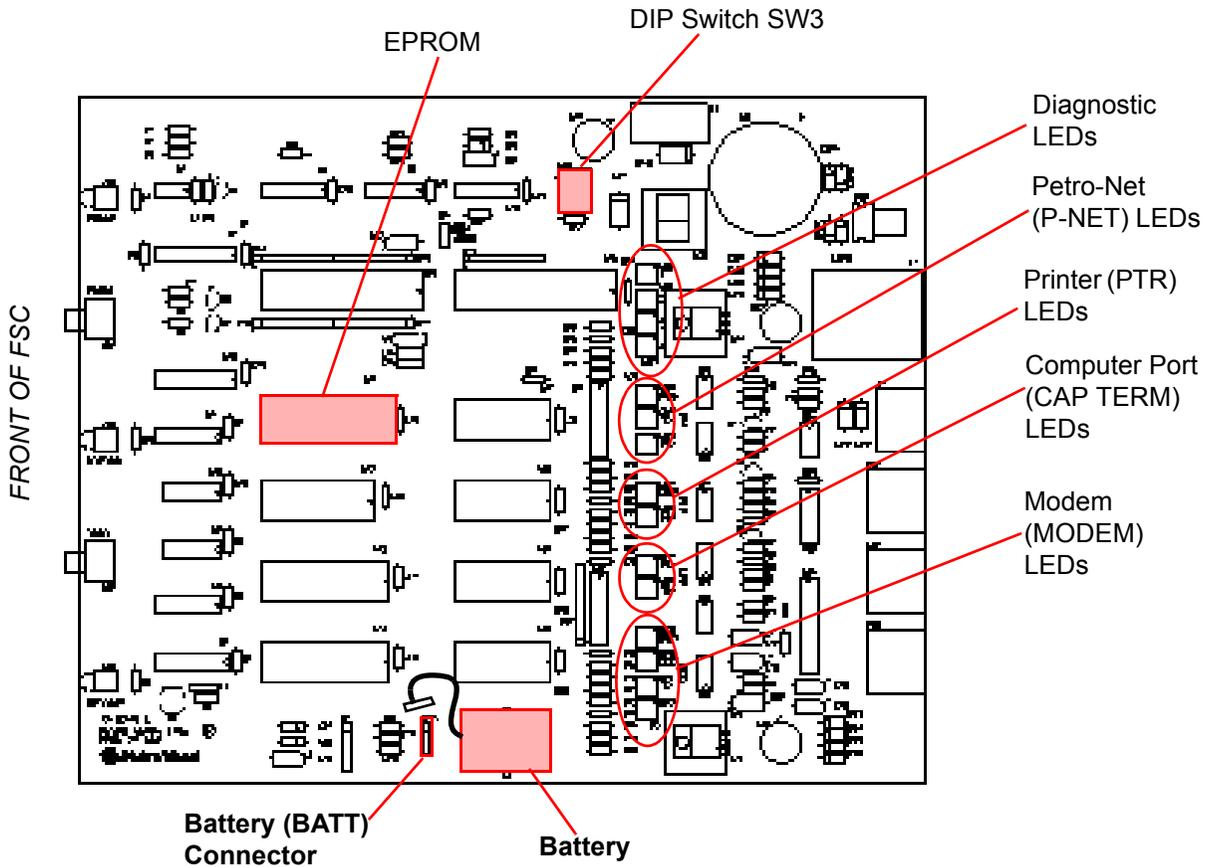

Figure 16: K800 Fuel Site Controller Board
You must connect the battery to the BATT connector on the FSC board (Figure 16) before configuration.
2. Plug the battery cable into the BATT connector on the FSC board (*Figure 16* on *page 24*).